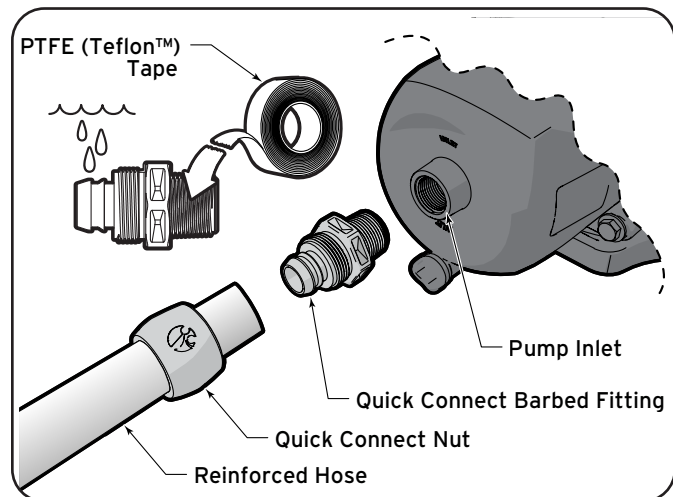

Figure 9. Quick Connect Installation
- Apply 4-6 wraps of PTFE (Teflon™) tape to the tapered threads on all four of the barbed fittings. Be sure to wrap the tape in the opposite direction that the male threads will be turning in order to create a water tight seal. See Figure 9.
- Slide the quick connect nut over the reinforced hose. See Figure 9.
- Use water to lubricate the barbs. See Figure 9.
- Install a second quick connect barbed fitting at the pump suction inlet. See Figure 9.